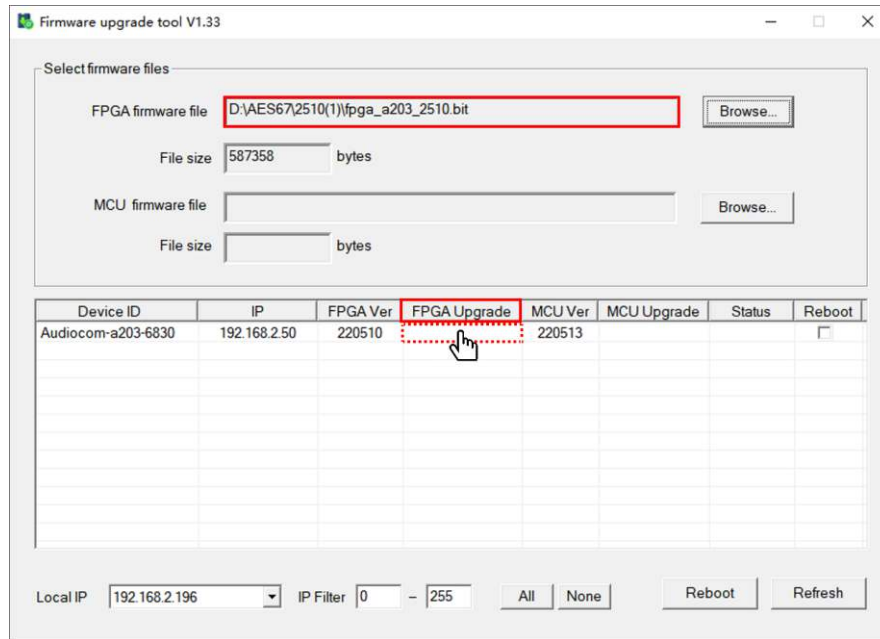

Figure 24: Initiate FPGA firmware upgrade
Step 3: After selecting the FPGA firmware version file, click on the blank area (marked by the Red dotted lines in **Figure 24**) under the 'FPGA Upgrade' column.